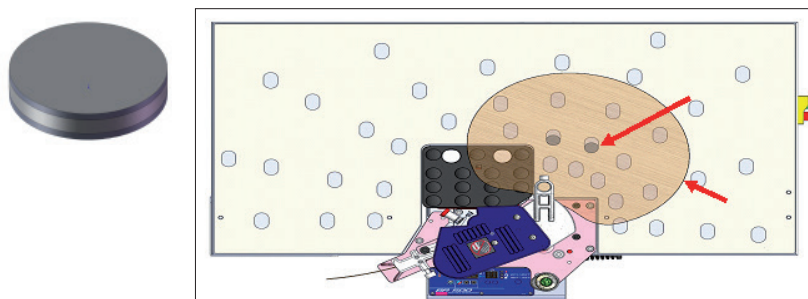

Fig. 13
- The position of magnet chip can be adjusted according to different shapes & sizes of the work pieces. Applicable for work pieces spinning above the stationary working table by only attaching to the magnet chips. (Fig 13).